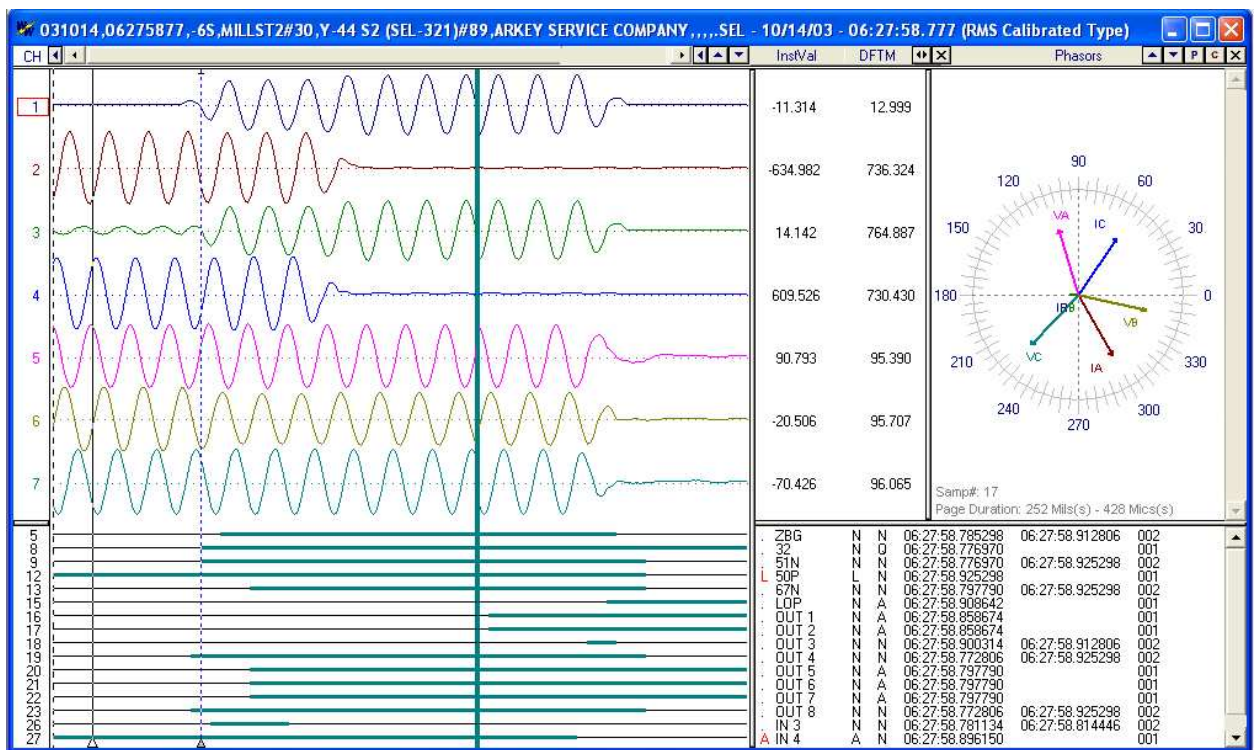

Figure 4.32 Append Waveform Files: Back to Back
- Back to Back: The files are appended back to back. No samples are deleted. Refer to Figure 4.32.